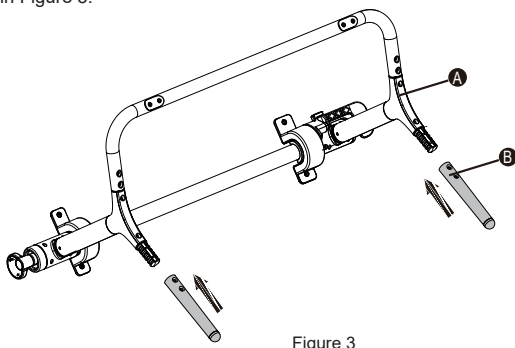

Figure 3
Step 4: Connect the elevation and rotation assembly A to the rear foot pipe B, as shown in Figure 3.